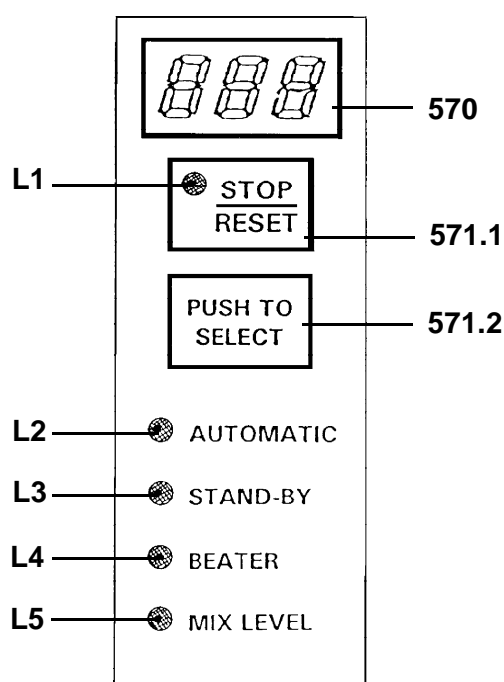

Figure 4
A) Electronic Touch Pad – (Refer to figure 4)